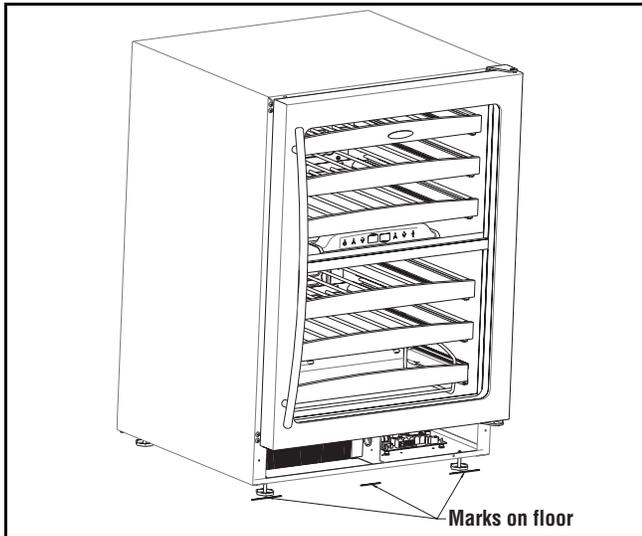

Figure 27
- Remove grille and place mark on the floor at the front of the unit. Also place a mark on the floor in the center of the unit (**Figure 27**).